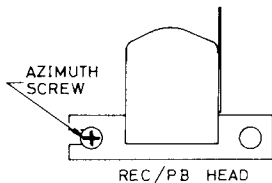

Fig. 1
2. Insert the test tape (LCT-3004-C or equivalent) into deck and play it back. Adjust azimuth screw (Fig. 1) to increase the output levels of both channels at playback to maximum and reduce the difference in output between left and right channels to minimum.